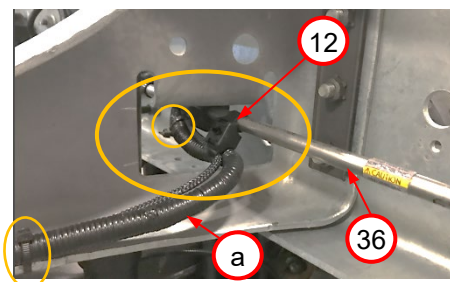

Figure 19.
12. A) Use zip ties (small circles) to secure chassis harness (1) to OEM chassis harness (6). *Figure 19*
B) Use dual tie strap clip (12), p/n 61090072, to secure fuel system chassis harness/OEM chassis harness bundle (a) to PRD vent tube, tee to union (36), at frame crossmember opening (large circle). *Figure 19*